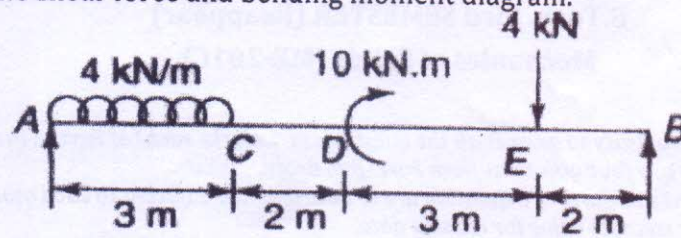

Figure 5(a)
- Q2 (a) Derive expressions for principal stresses and maximum shear stress when a body is subjected to a simple stresses in two mutually perpendicular directions. (5)
- (b) At a point in a material, the stresses on two mutually perpendicular planes are 50N/mm^2 (tensile) and 30N/mm^2 (tensile). The shear stress across these planes is 12N/mm^2 . Using Mohr circle, find magnitude and direction of the resultant stress on a plane making an angle of 35° with the plane of the first stress. Find also, the normal and tangential stresses on this plane. (10)
- Q3 A circular shaft 100 mm diameter is subjected to combined bending and twisting of moments the B.M being 3 times the twisting moment. If the direct tensile yield point of the material is 350N/mm^2 , and the factor of safety is 4, calculate the allowable twisting moment according to the following theories of failures. (15)
- Q4 (a) A solid round bar 3 m long and 5 cm in diameter is used as a strut with one end is fixed and other is hinged. Determine the crippling load. Take $E = 2 \times 10^5\text{N/mm}^2$. (10)
- (b) Derive Euler's buckling load formula of a long column pinned at both ends. (5)
- Q5 (a) A beam of 10m length is acted upon by forces and a couple as shown in figure 5(a). Draw the shear force and bending moment diagram. (8)